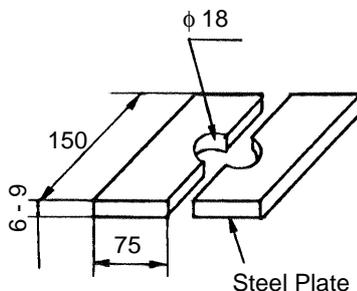
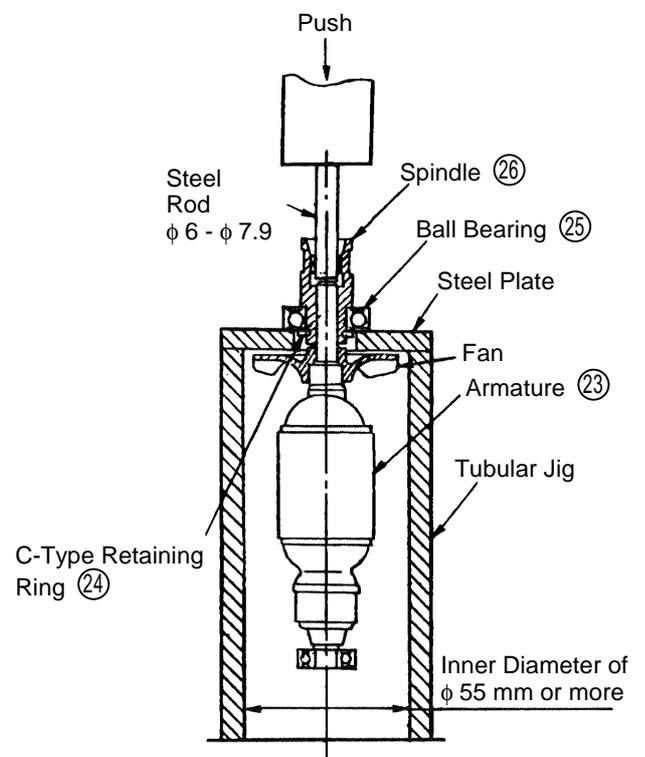

Fig. 5
Fig. 6
(3) Disassembly of the Spindle ㉔: (See Figs. 5 and 6)
At all times, be very careful not to damage the Armature. First, remove the Collet ㉗ from the Spindle ㉔. Then, being very careful not to damage the fan, suspend the Armature ⑬ inside an appropriate tubular jig. (inner diameter of 55 mm) by supporting it with a steel plate with a thickness of 6 - 9 mm (see Fig. 5). Next, as illustrated in Fig. 6, fit a steel rod (external diameter of 6 - 7.9 mm) into the Spindle ㉔, and press down on the end of the steel rod with a hand press to separate the 6002VVCM Ball Bearing ㉕, C-Type Retaining Ring ㉘ and Spindle ㉔ from the Armature ⑬.